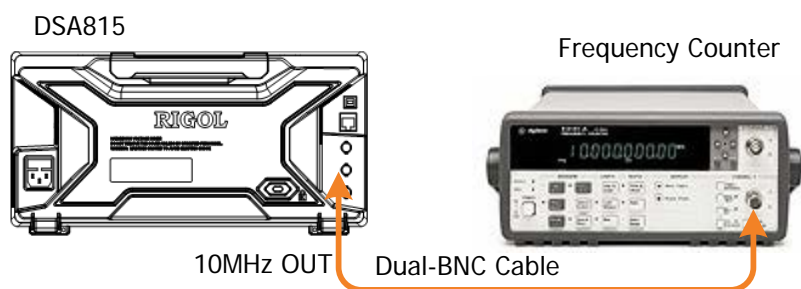

Figure 2-9 10 MHz Reference Output Accuracy Test Connection Diagram
1. Connect the **[10 MHz OUT]** terminal at the rear panel of the spectrum analyzer with the frequency counter, as shown in Figure 2-9.